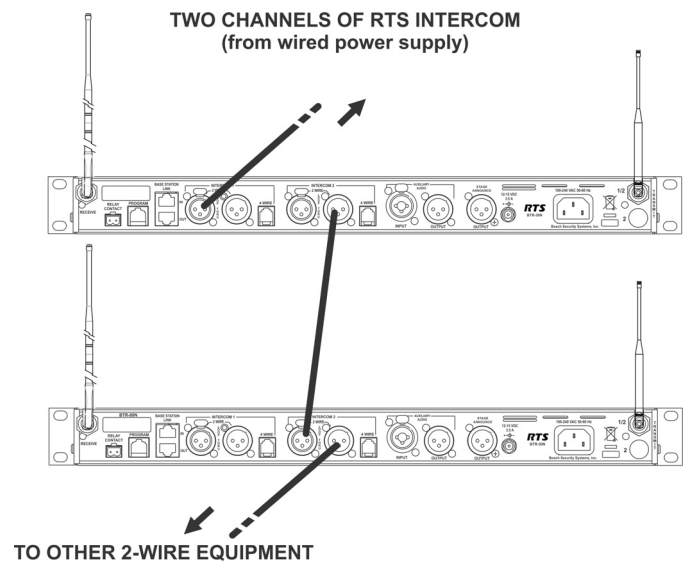

FIGURE 21. Loop-through of two base stations connected with RTS Intercoms
Since RTS-TW carries both channels of audio on one (1) cable, the four (4) intercom **XLR connectors are connected in parallel** when RTS is selected. Thus any one (1) of the four (4) intercom XLRs may be used for RTS input. Looping through of the audio, shown in Figure 21, may also be accomplished via any of the rear panel XLRs when in FTS mode. For a description of how to set up the 2-wire ports, refer to Intercom Settings in this section. The 2-wire intercom may be used at the same time as the 4-wire intercom.